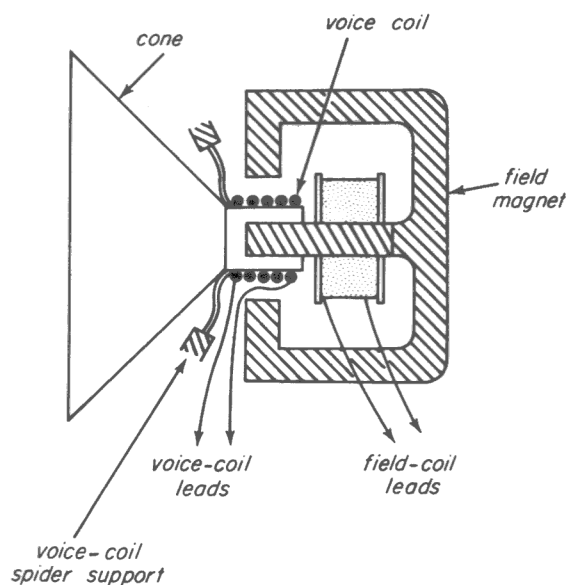

Fig. 26-13
Most modern loudspeakers are of the *dynamic* or moving-coil type. They may either be of the electrodynamic, or of the permanent magnet (PM) kind. Figure 26-13